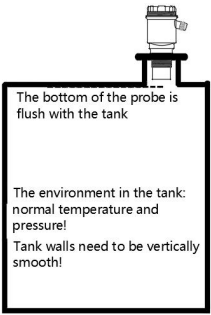
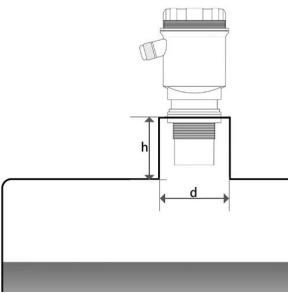
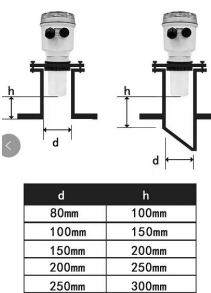

Figure 3
Figure 4
Figure 5
Menu 1: Installation settings (operation menu for on-site installation and commissioning personnel) (Figure 3)
5) For flange installation on tanks at normal temperature and pressure, the probe surface of the instrument is best exposed in the tank, as shown in Figure 3; if it is not possible in the field environment, the diameter of the pipe fixing the flange is shown in Figure 4 and Figure 5, and the length h is between 100mm-300mm The larger the h value, the larger the corresponding d value.